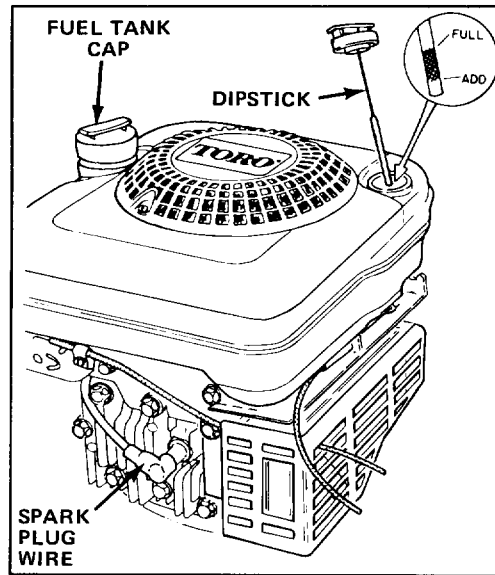

Figure 6
FILL CRANKCASE WITH OIL (Fig. 6)
1. Clean around fuel tank cap and remove cap from tank (Fig. 6). Using unleaded gasoline, fill fuel tank to within 1/4" to 1/2" (6 to 13 mm) from top of tank.
1. CHECK OIL LEVEL—Maintain oil level between ADD and FULL marks as shown on dipstick (Fig. 6).
1. Stop engine and pull wire off spark plug (Fig. 6).